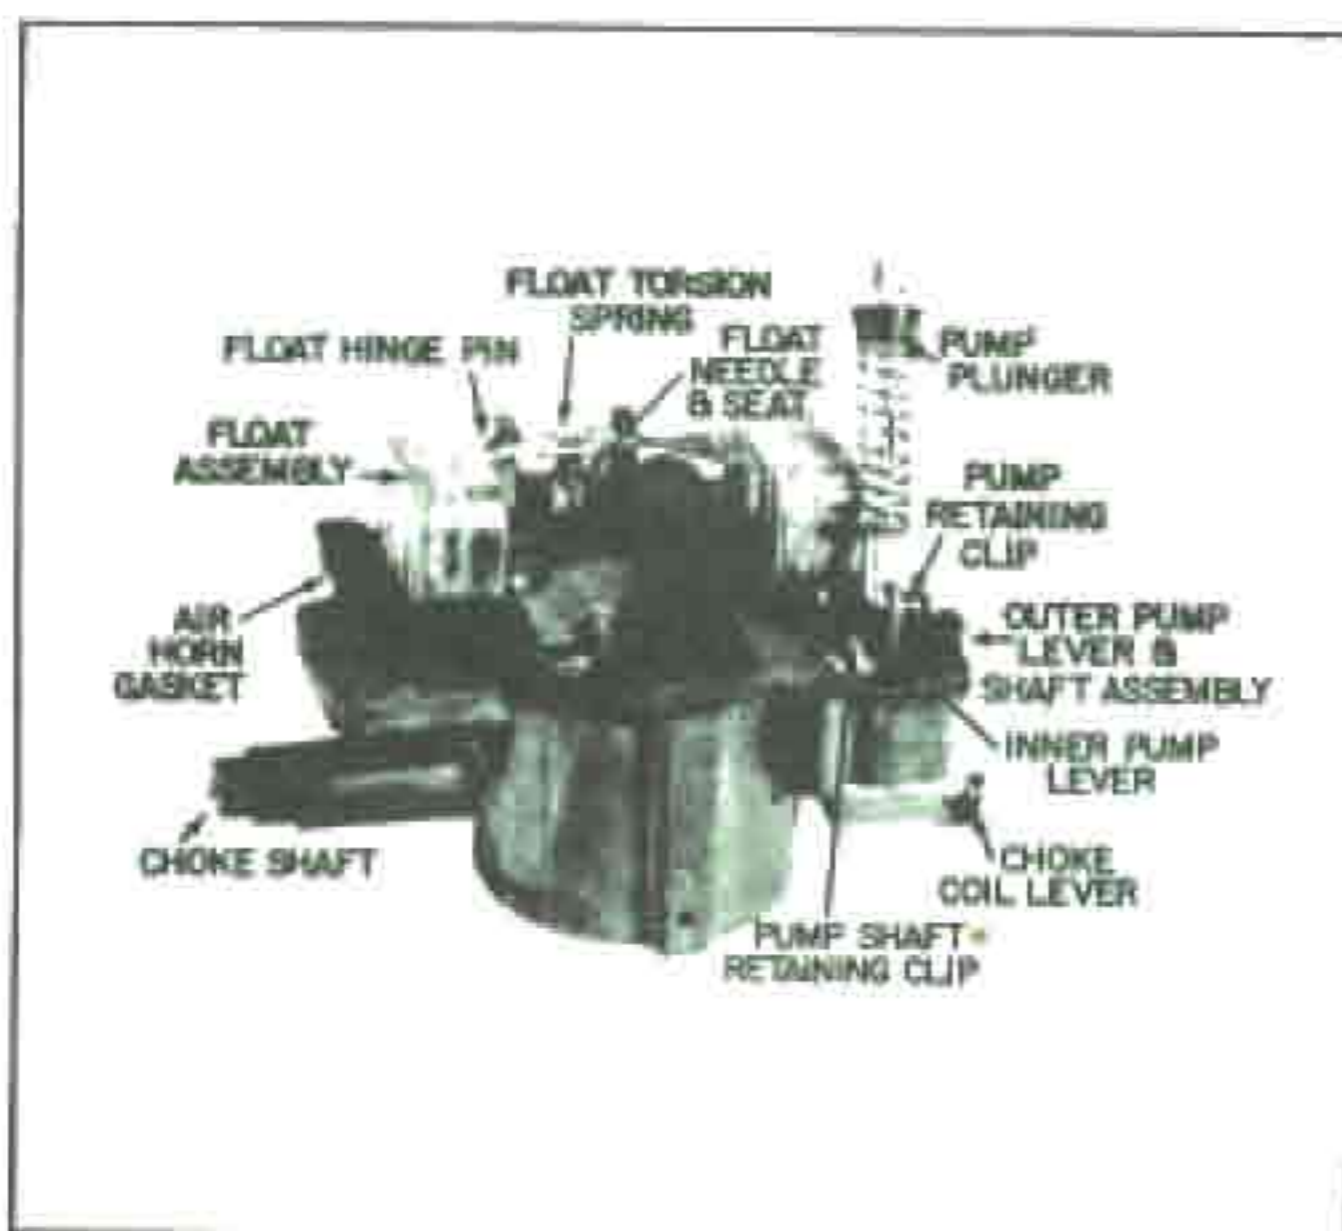

FIGURE 12
9. Place air horn inverted on a flat surface (Figure 12). Remove float hinge pin and lift float assembly from air horn. *Note:* A float assist torsion spring is used on 1964 and later models. This is held in place by the float hinge pin. Observe position for ease in reassembly.